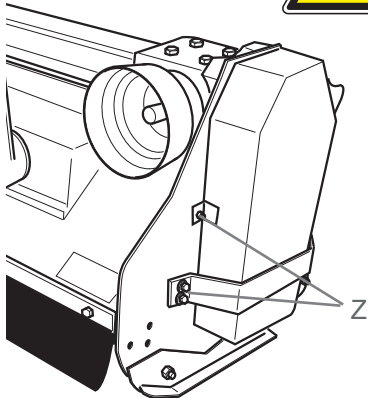

Fig. 41
- 1) Remove the cover protection and the belt protection cover (casing) by loosening the screws Z (Fig. 41).
- 2) Loosen the fastening bolts H of the multiplier support (Fig.41).